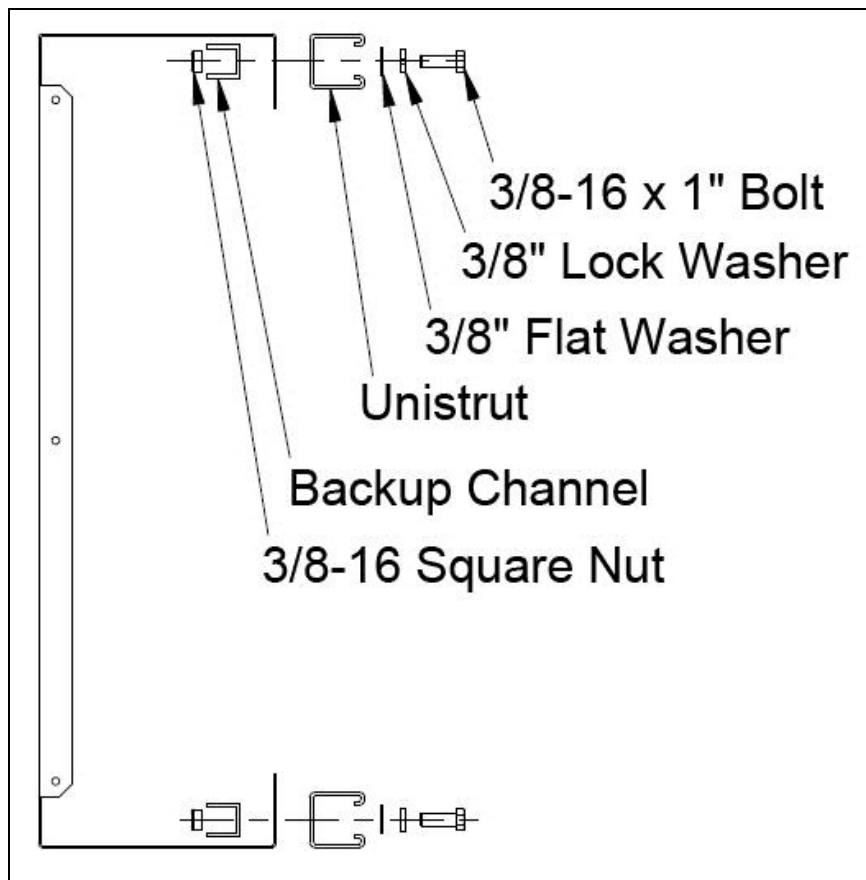

Figure 8: Unistrut Attachment, Side View
3. Attach the piece of unistrut to the ad panel with the included hardware, as shown in **Figure 8**.